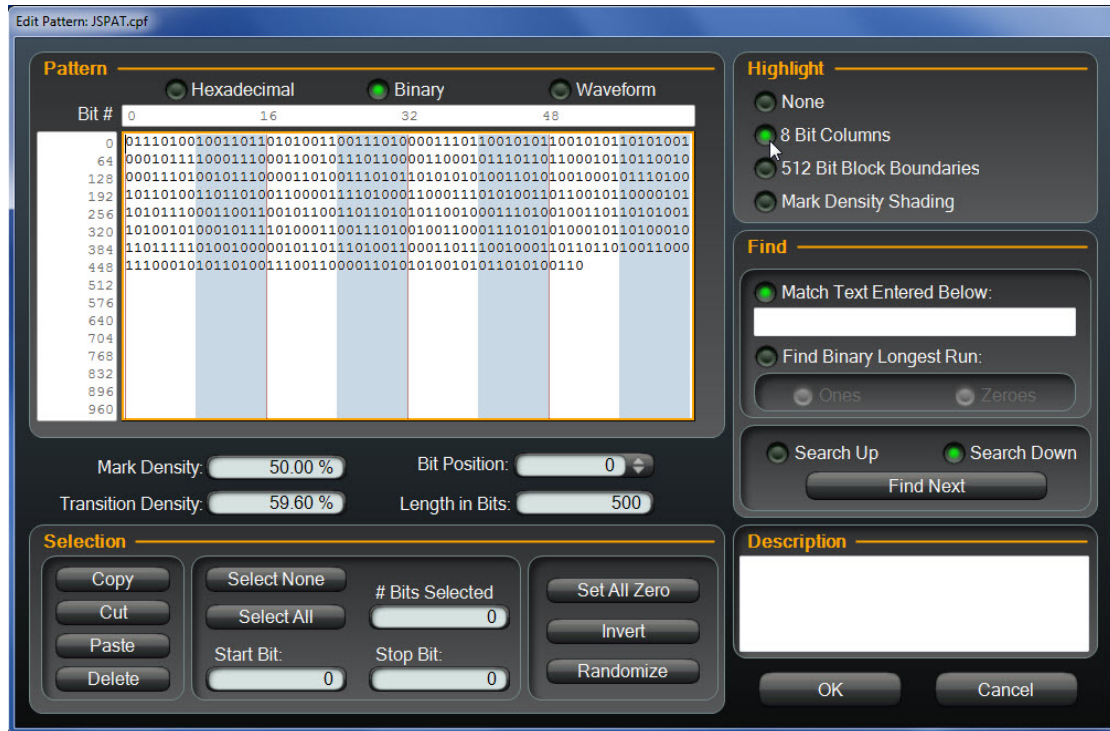

Figure 84. Highlight pattern in 8 bit columns
1. To highlight the pattern in columns of 8 bits, select **8 bit Columns** as shown in Figure 84.